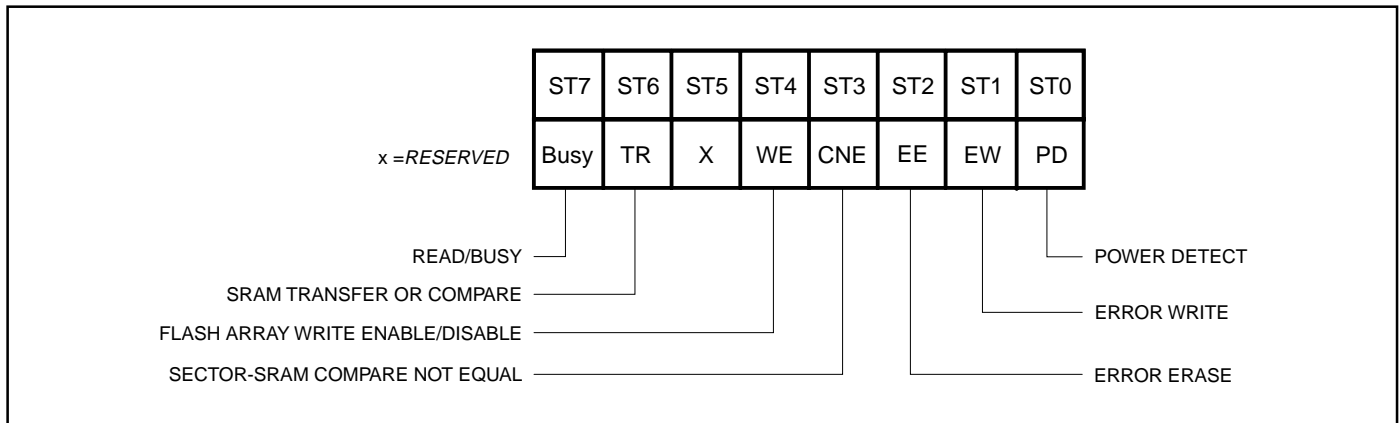

Figure 8. Status Register Bit Locations
The status register provides status of the Flash array’s Ready/Busy condition (R/B), transfers between the SRAM and program buffer (TX), Write-Enable/Disable (WE), and Compare Not Equal (CNE). The register can be read using the Read Status Register command (Figure 8).